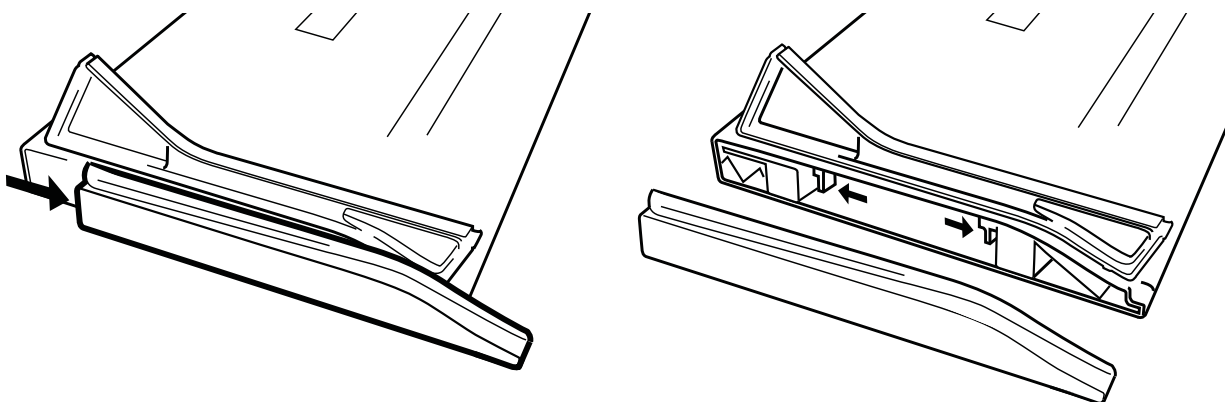

Figure 2-2 Removing side panels (left); removing riser brackets
1. Slide the side panels off (Figure 2-2 left).
2. Press the tabs to release the riser brackets (Figure 2-2 right).
3. On the MC Control, remove the side panel (see Figure 2-2 left) on the end where it will attach to the MC mix.